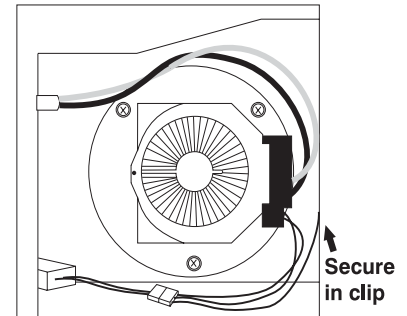

Figure 4.7. Mirage 4000/6000 Lamp Installation
- IF 4000/6000:** Looking into the lamp compartment, the terminal block should be located at approximately “3 o’clock”, i.e., roughly centered and on the side of the lamp facing the projector front. *Make sure the cables travel over the lamp, i.e. NOT along the lamp compartment floor. See Figure 4.7.*